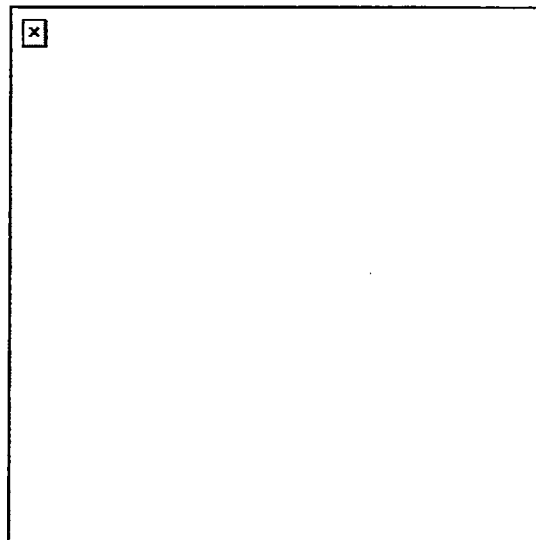

Figure 5. Firing from loophole.
3. Fire from unprepared loopholes. Select firing positions that are well back from the loophole to conceal the muzzle flash (Figure 5).